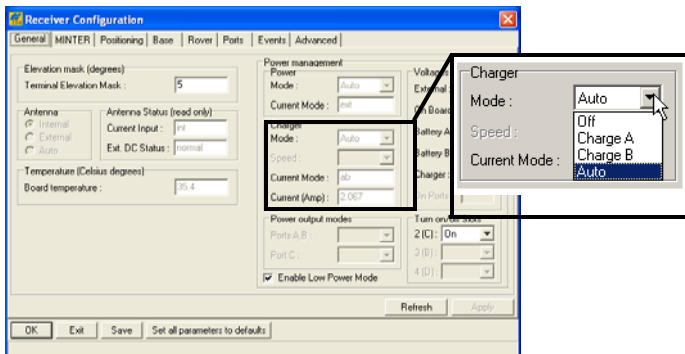

Figure 2-8. Select Charger Mode
4. Select the *Charger Mode* drop-down list to set the charger mode (Figure 2-8 on page 2-11). *Current Mode* displays the charging battery: a, b, or none (off).